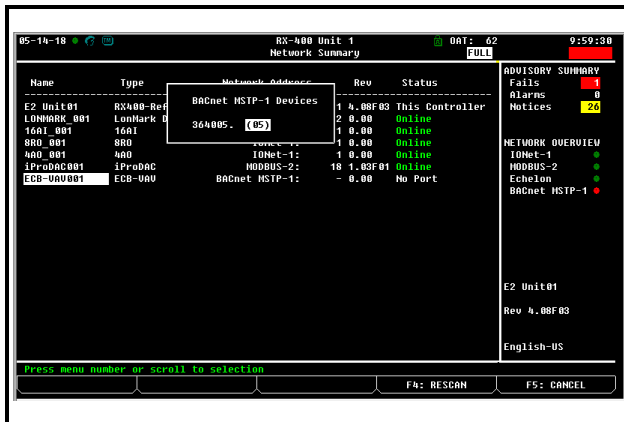

Figure 6-8 - BACnet MSTP Device List
- When the scanning process has completed, a list of all the BACnet MSTP Devices on the Ethernet Network will be displayed. Verify the correct **Object Instance** and **MAC** address for the Third-party device on the example list as shown in *Figure 6-8*. Then use the arrow keys to highlight the device and then press to confirm.
5. When the scanning process has completed, a list of all the BACnet MSTP Devices on the Ethernet Network will be displayed. Verify the correct **Object Instance** and **MAC** address for the Third-party device on the example list as shown in **Figure 6-8**. Then use the arrow keys to highlight the device and then press **Enter** to confirm.